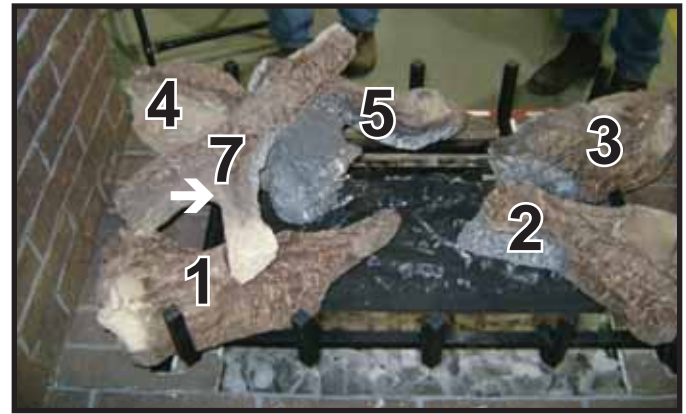

Figure 13
**LOG NUMBER 7 (SRV2146-707):** Log #7 rests on the notch on top of log #1 and the notch on top of log #4. See Figure 13. The points of contact on Log #1 and Log #4 where Log #7 rests are indicated by the circles in Figure 10.